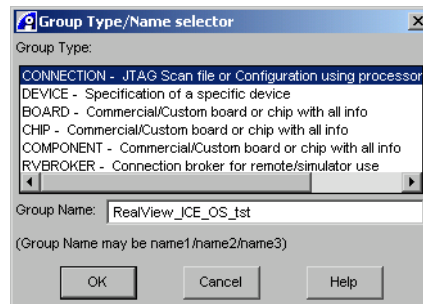

Figure 4-4 Specifying a new CONNECTION group
7. This displays the Group Type/Name selector dialog box, shown in Figure 4-4 on page 4-10.